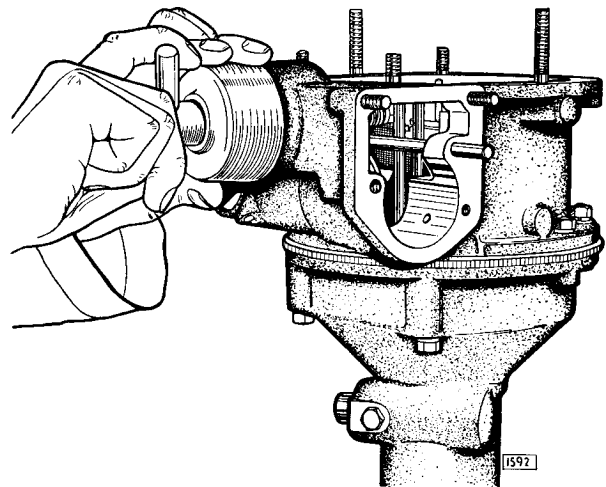

Fig. 36. Extracting the oil pump (Tool No. L.183).
4. Take out the two cheese head screws securing the pump body flange and extract the pump body. A special extractor tool (Fig. 36) is available for this purpose. This screws into the bottom of the pump body in place of the screwed plug.